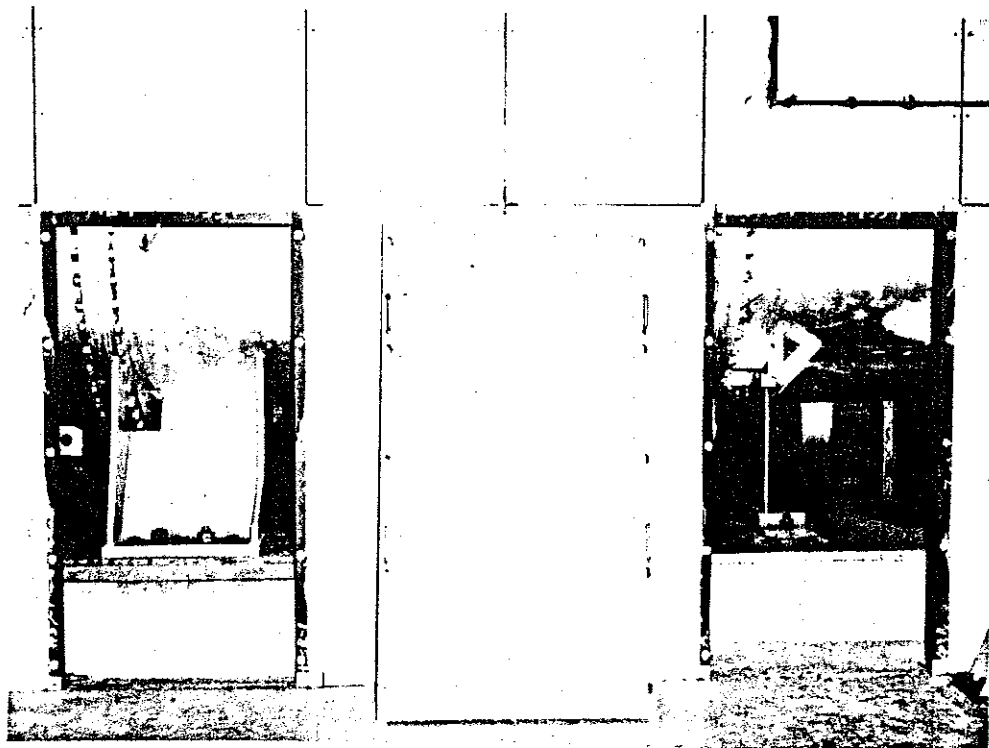

FIG. 2. CELL SIDE PANEL
- d. Remove side panel and place to one side (see Figure 2).